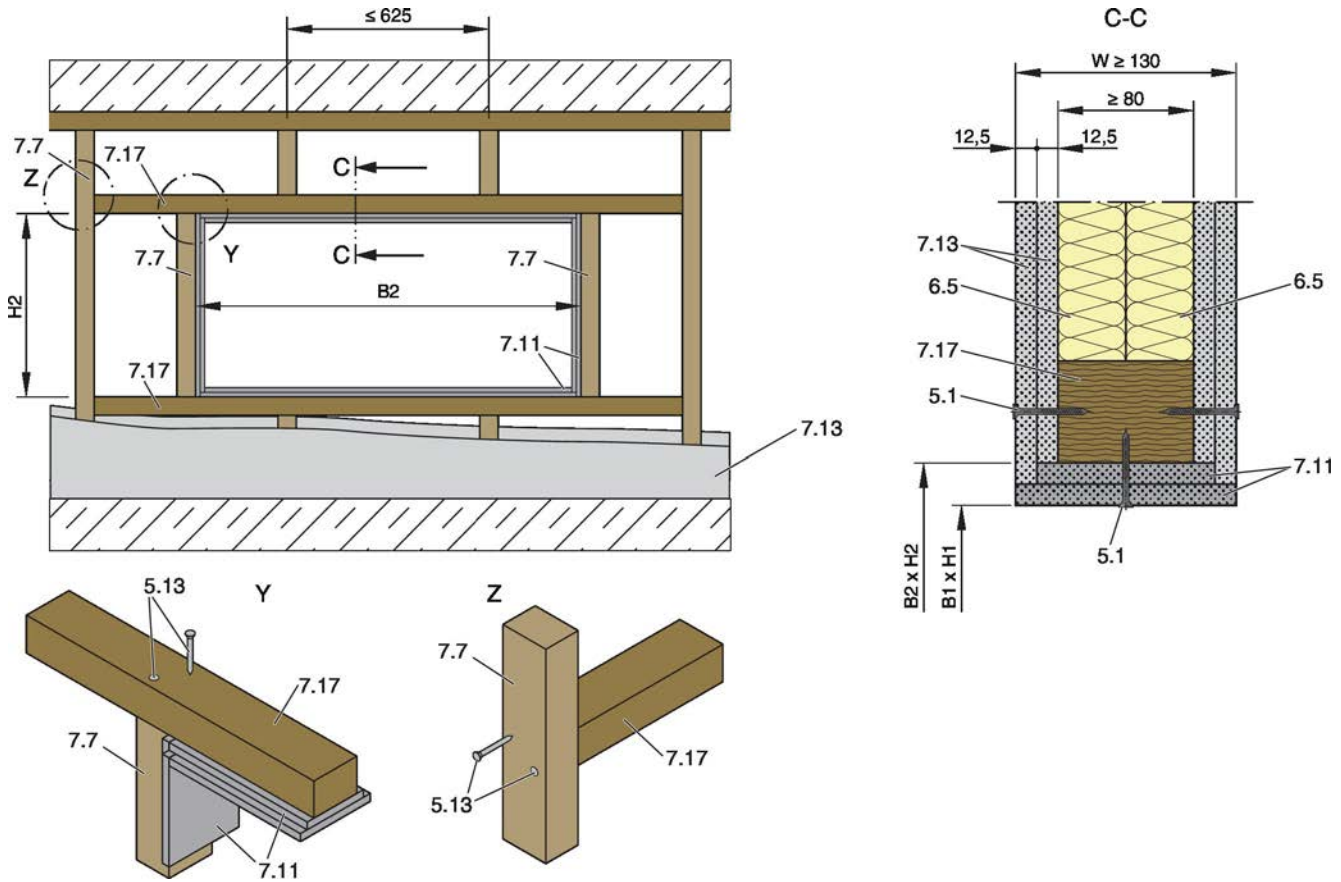
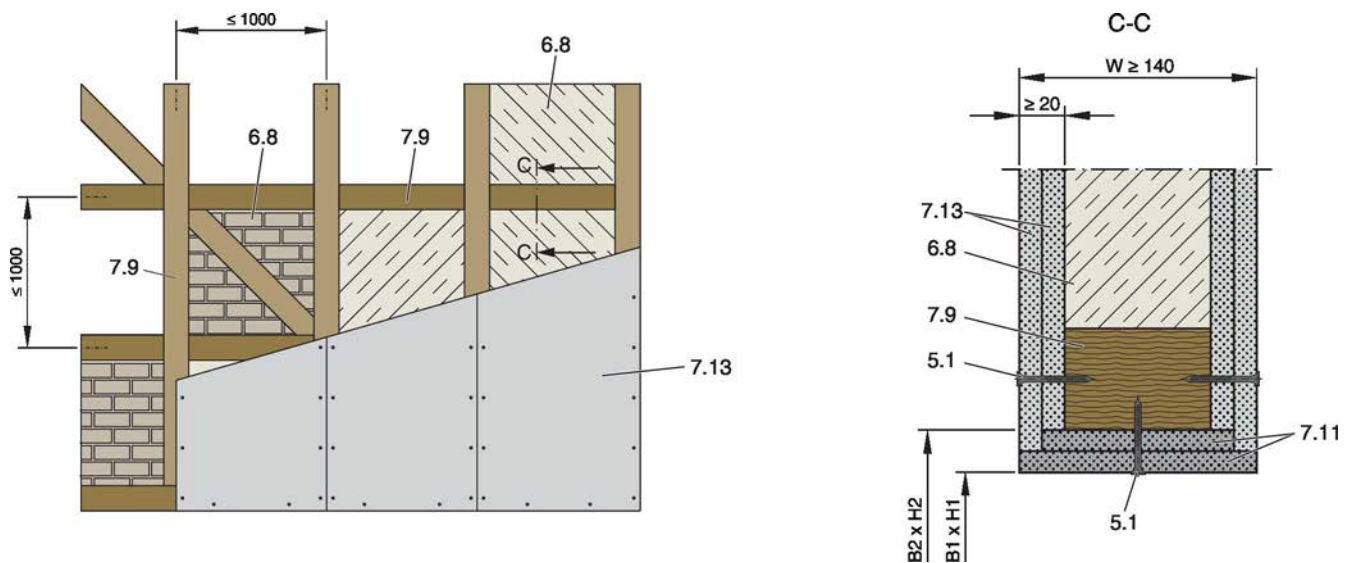

Fig. 34: Lightweight partition wall with timber support structure and cladding on one side
Fig. 35: Lightweight partition wall, half-timbered construction with cladding on both sides
- Create an installation opening in the timber support structure with timber studs 7.7, trimmers 7.17 and trim panels 7.11 or in the half-timbered construction 7.9 with trim panels 7.11, see Fig. 34 or Fig. 35.